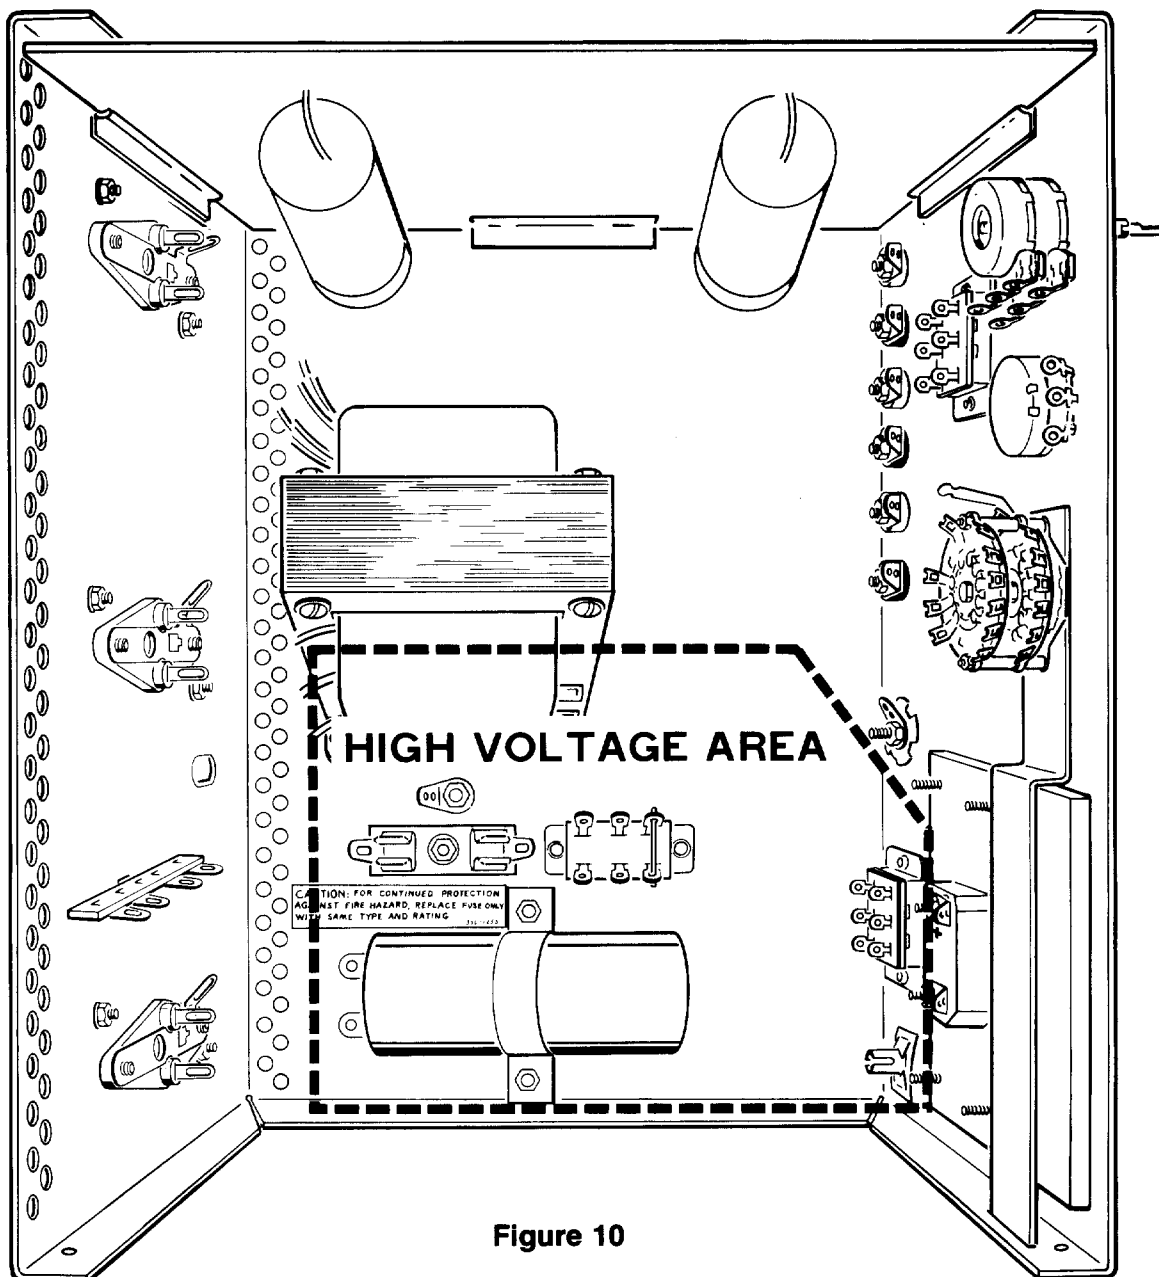

Figure 10
**WARNING:** The full AC line voltage and high voltage DC is present at several points in the Power Supply. Be careful to avoid personal shock when you work on the Power Supply. Refer to Figure 10.